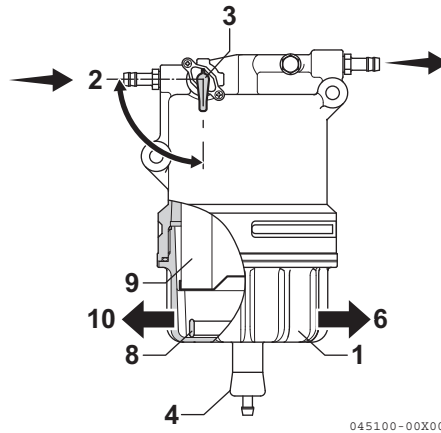

Figure 5-14
1. Position an approved container under the cup (**Figure 5-14, (1)**) of the water separator to collect the contaminants.
2. Close (**Figure 5-14, (2)**) the fuel cock (**Figure 5-14, (3)**).
3. Loosen the drain cock (**Figure 5-14, (4)**) and drain the contaminants. *See Drain water separator on page 5-10.*
4. Turn the retaining ring to the left (**Figure 5-14, (10)**) and remove the cup. If equipped, disconnect the sensor wire from the cup before removing the cup.
6. Remove the float ring (**Figure 5-14, (8)**) from the cup. Pour the contaminants into the container and dispose of it properly.
11. Install the cup to the bracket by tightening the retaining ring to the right (**Figure 5-14, (6)**) to a torque of 27 - 33 N·m (2.8 - 3.4 kgf·m).
13. Open the fuel cock (**Figure 5-14, (3)**).